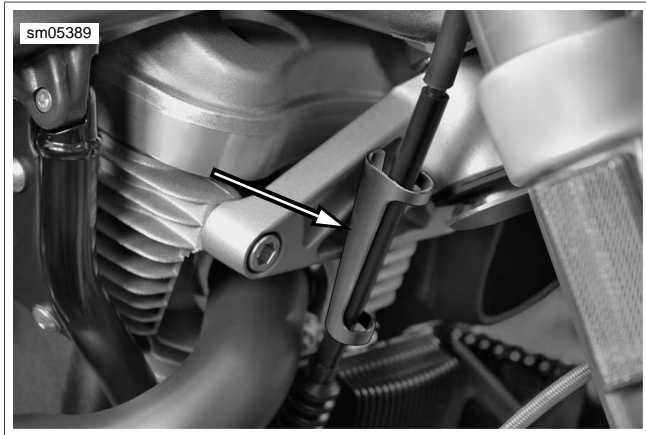

Figure 3-40. Clutch Cable Bracket
29. See Figure 3-40. Pull clutch cable back up into the proper position and connect to handlebars and adjust to specifications. See 1.9 CLUTCH/TRANSMISSION/PRIMARY FLUID.